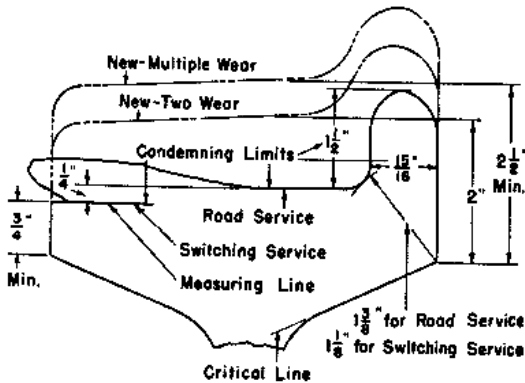

Figure 43. Wheel wear diagram, sectional view.
- (1) Wheels which are excessively worn or shelled should be removed from service. Multiple-wear rolled-steel wheels are used on these locomotives. The tread of the wheel as shown in figure 43 can be turned several times before it reaches a condemned condition. Do not attempt to patch cracks, shelled, or worn away treads by welding, as the carbon content of the steel is between 0.57 and 0.77 percent. Application of heat or welding on a wheel is a dangerous practice, and will inevitably result in a wheel failure. Restore wheel treads and flange contours by turning them in a large bull lathe.
- (2) Wheels are stamped with identification numbers and letters on the inside face of the flange. The information given on the wheels is the date, manufacturer's name, serial number, heat number, carbon content and heat treatment, American Association of Railroads and wear class of wheel.